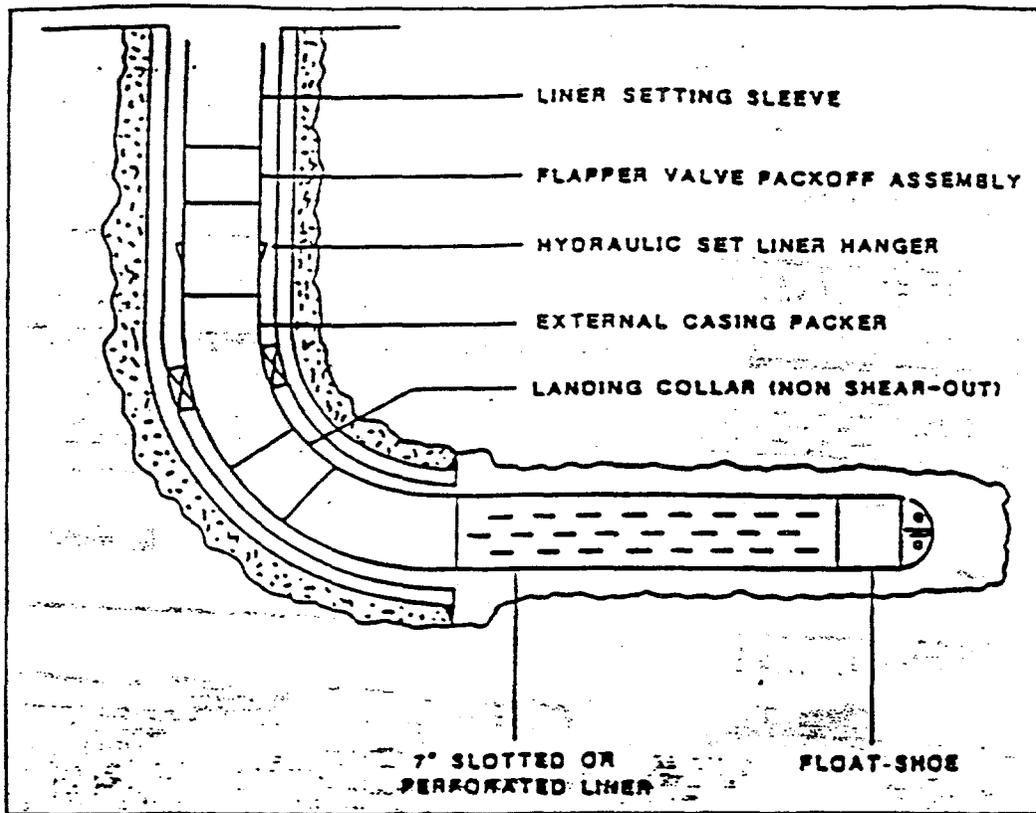

Figure 5.2 -- Slotted liner completion with external casing packer in Indonesia.
3. Liner with Partial Isolations: Recently, external casing packers (ECPS) have been installed outside the slotted liner to divide a long horizontal wellbore into several small sections (Fig. 5.2). This method provides limited zone isolation, which can be used for stimulation or production control along the well length.